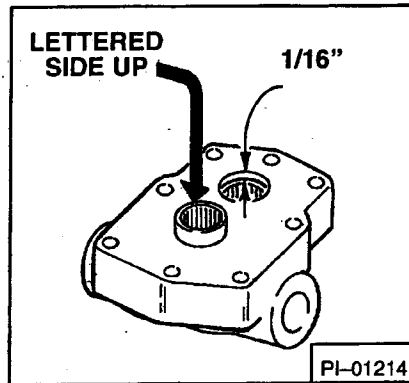

Fig. 4-32 Install New Bearings
8. When needle bearings are bad remove and install new needle bearings (Fig. 4-32).